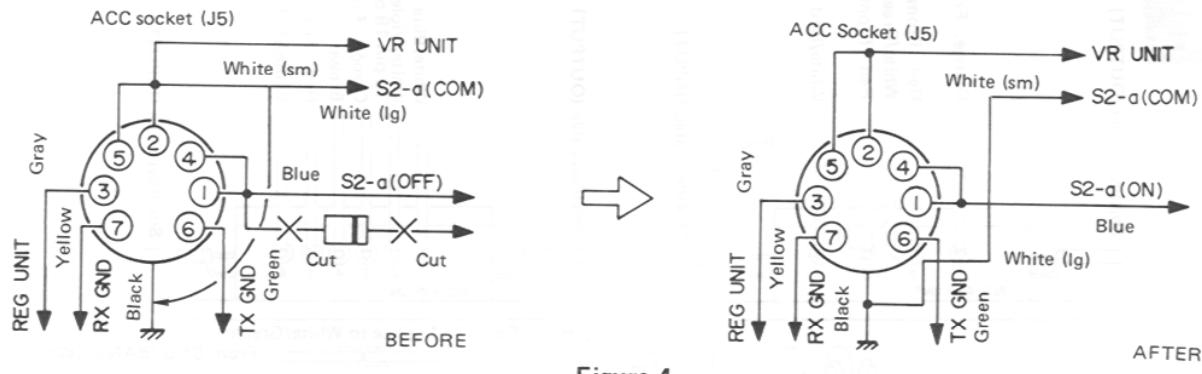

Figure 4
- On the ACC socket (J5), disconnect the large white wire from pins 2 and 5, and reconnect this wire to the ground terminal at the socket, as shown in Figure 4. Also, if a diode is connected to pins 1 and 4 of the ACC socket (early models), remove this diode from the transverter.